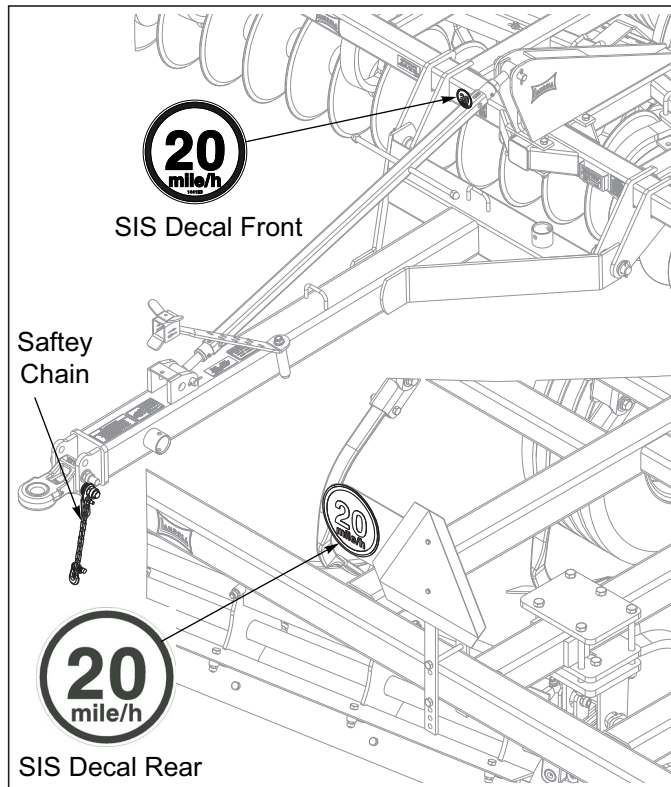

Figure 4-9: Hitch, Speed Identification Symbol, and Safety Chain
2. The 877 should be transported only by tractor required for field operation. The implement weight should not exceed more than 1.5 times the tractor weight. Maximum transport speed for the 877 is 20 mph for the implement and is designated on the speed identification symbol located on the front and rear of the implement *See Figure 4-9.*
- b. Attach the safety chain to the tractor drawbar *See Figure 4-9* Provide only enough slack in the chain for turning. Do not use an intermediate chain support as the attaching point for the chain on the tractor. Do not pull the implement by the safety chain.